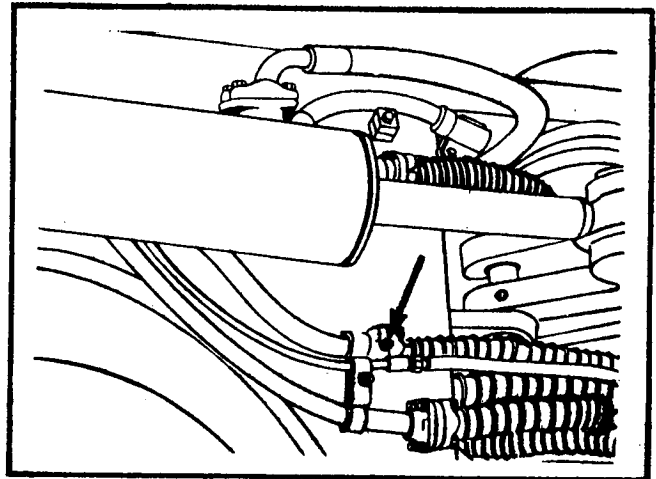

Fig. 25. Check Bowl & Ejector Pressure
2. Vent hydraulic tank cap and retighten. Use a hydraulic pressure gauge of at least 3000 psi capacity. With engine shut down, remove pipe plug from line located on right side of yoke at horizontal hitch point. See Fig. 25 and install gauge here.